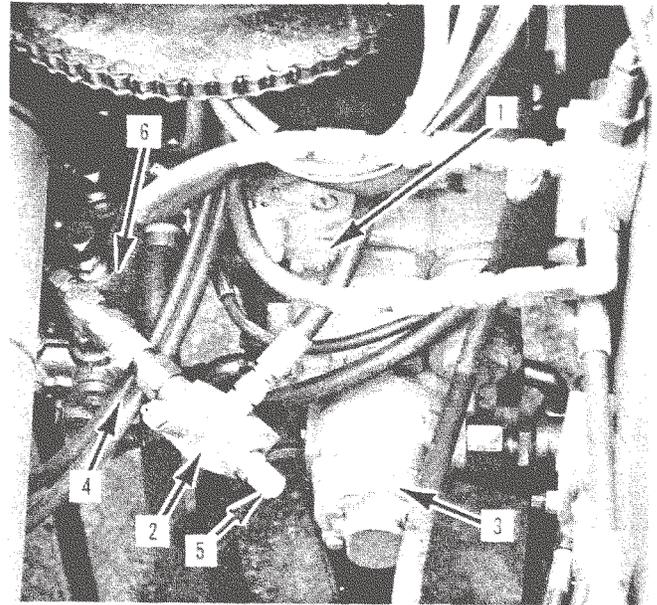

Figure 29. Rear Pump
### 15. Rear Pump Built in Relief Valve (Figure 29, Ref. 4)
### 16. Rear Pump External Relief Valve (Figure 29, Ref. 2)
- a) With engine "off", remove cap (5) on external relief valve (Figure 29) and install a 3000 psi gage with necessary adapters to hook up to a 1/2" JIC (08 MJ) male fitting.
10. The pump stroker (Figure 29, Ref. 1) null or zero should now be centered using the following procedure. This step only needs to be done if the pump or stroker has been changed.